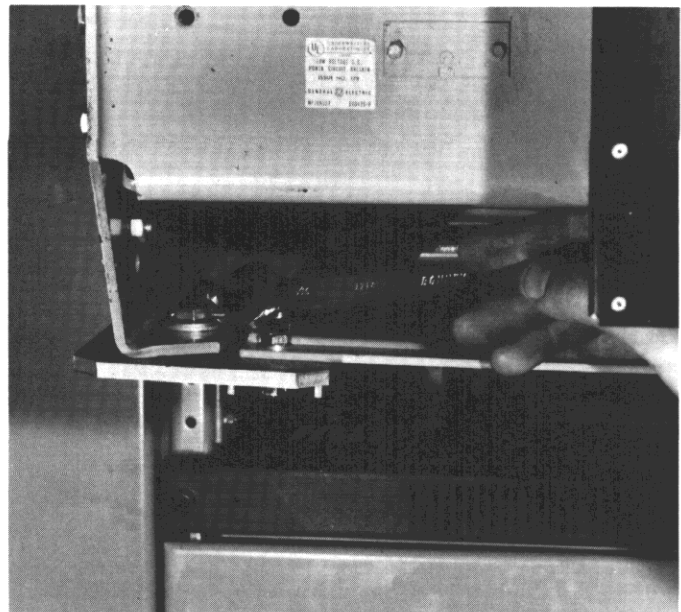

Fig. 5-11. Securing AKR-75/100 breakers to drawout tray
4. Secure the breaker to the tray by inserting and tightening two $\frac{3}{8}$ -inch hex head screws into the front holes of its side flange as shown in Fig. 5-11.
5. Remove the two $\frac{3}{8}$ -inch hex head screws (Fig. 5-11) which fasten the breaker to the compartment tray.